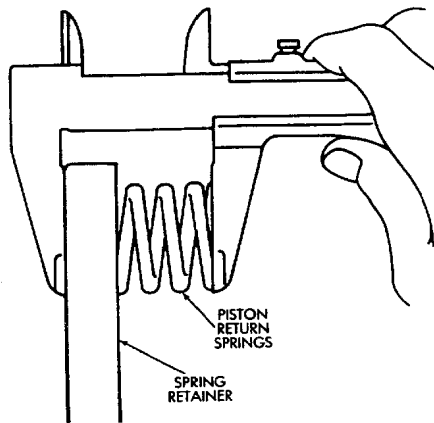

Fig. 9 Checking Piston Return Spring Length
(12) Remove and discard clutch piston O-rings.
(13) Measure clutch disc thickness. Minimum allowable thickness is 1.84 mm (.0724 in). Replace discs if below minimum thickness.
(14) Measure free length of piston return springs with springs in retainer (Fig. 9). Length should be 21.32 mm (.839 in). Replace return springs if not within specification.